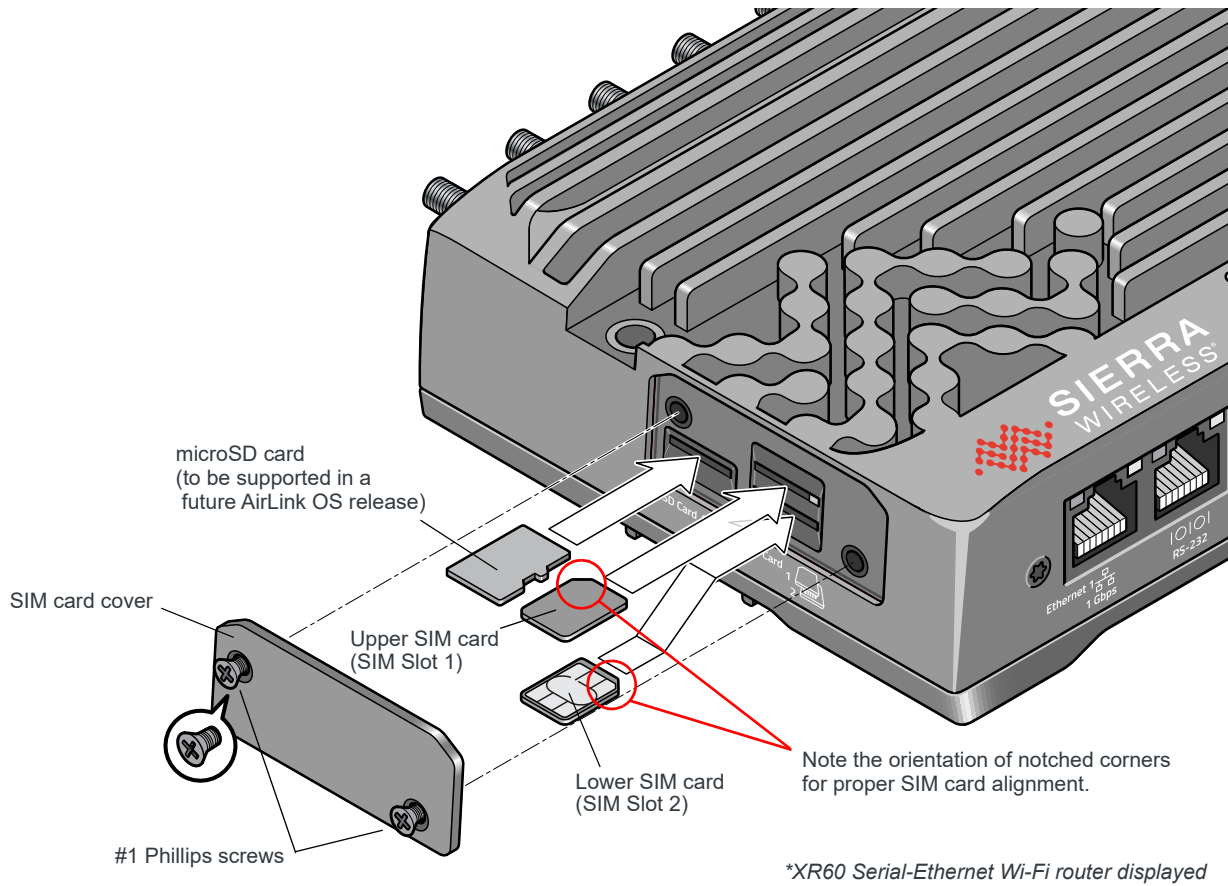

Figure 2-1: Installing the SIM Card
2. Orient the SIM card(s), as shown in Figure 2-1. Note—If you are using only one SIM card, insert it in the upper SIM slot (Slot 1).